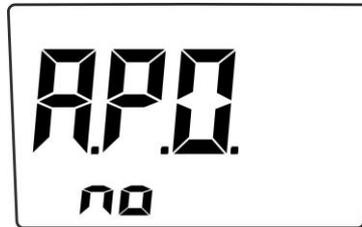

Fig. 36: Disabling Auto Power OFF function
3. The “A.P.O no” message is shown on the display for a few seconds (see Fig. 36), the instrument automatically switches on in measuring mode and the “P” symbol (see Fig. 2 – part 14) disappears from the display. The function is automatically restored when re-booting the instrument.